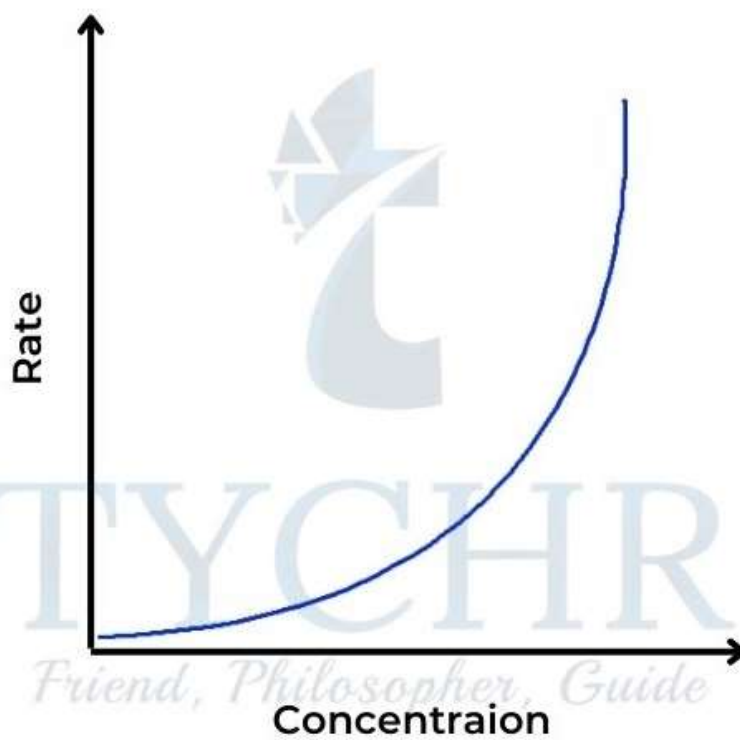

Figure 19: Rate–concentration graph for a secondorder reaction
- So the concentration–time graph is also a curve, steeper at the start than the first-order graph and levelling off more (Figure 18). The rate–concentration graph is a parabola, characteristic of the square function (Figure 19). The gradient here is proportional to the